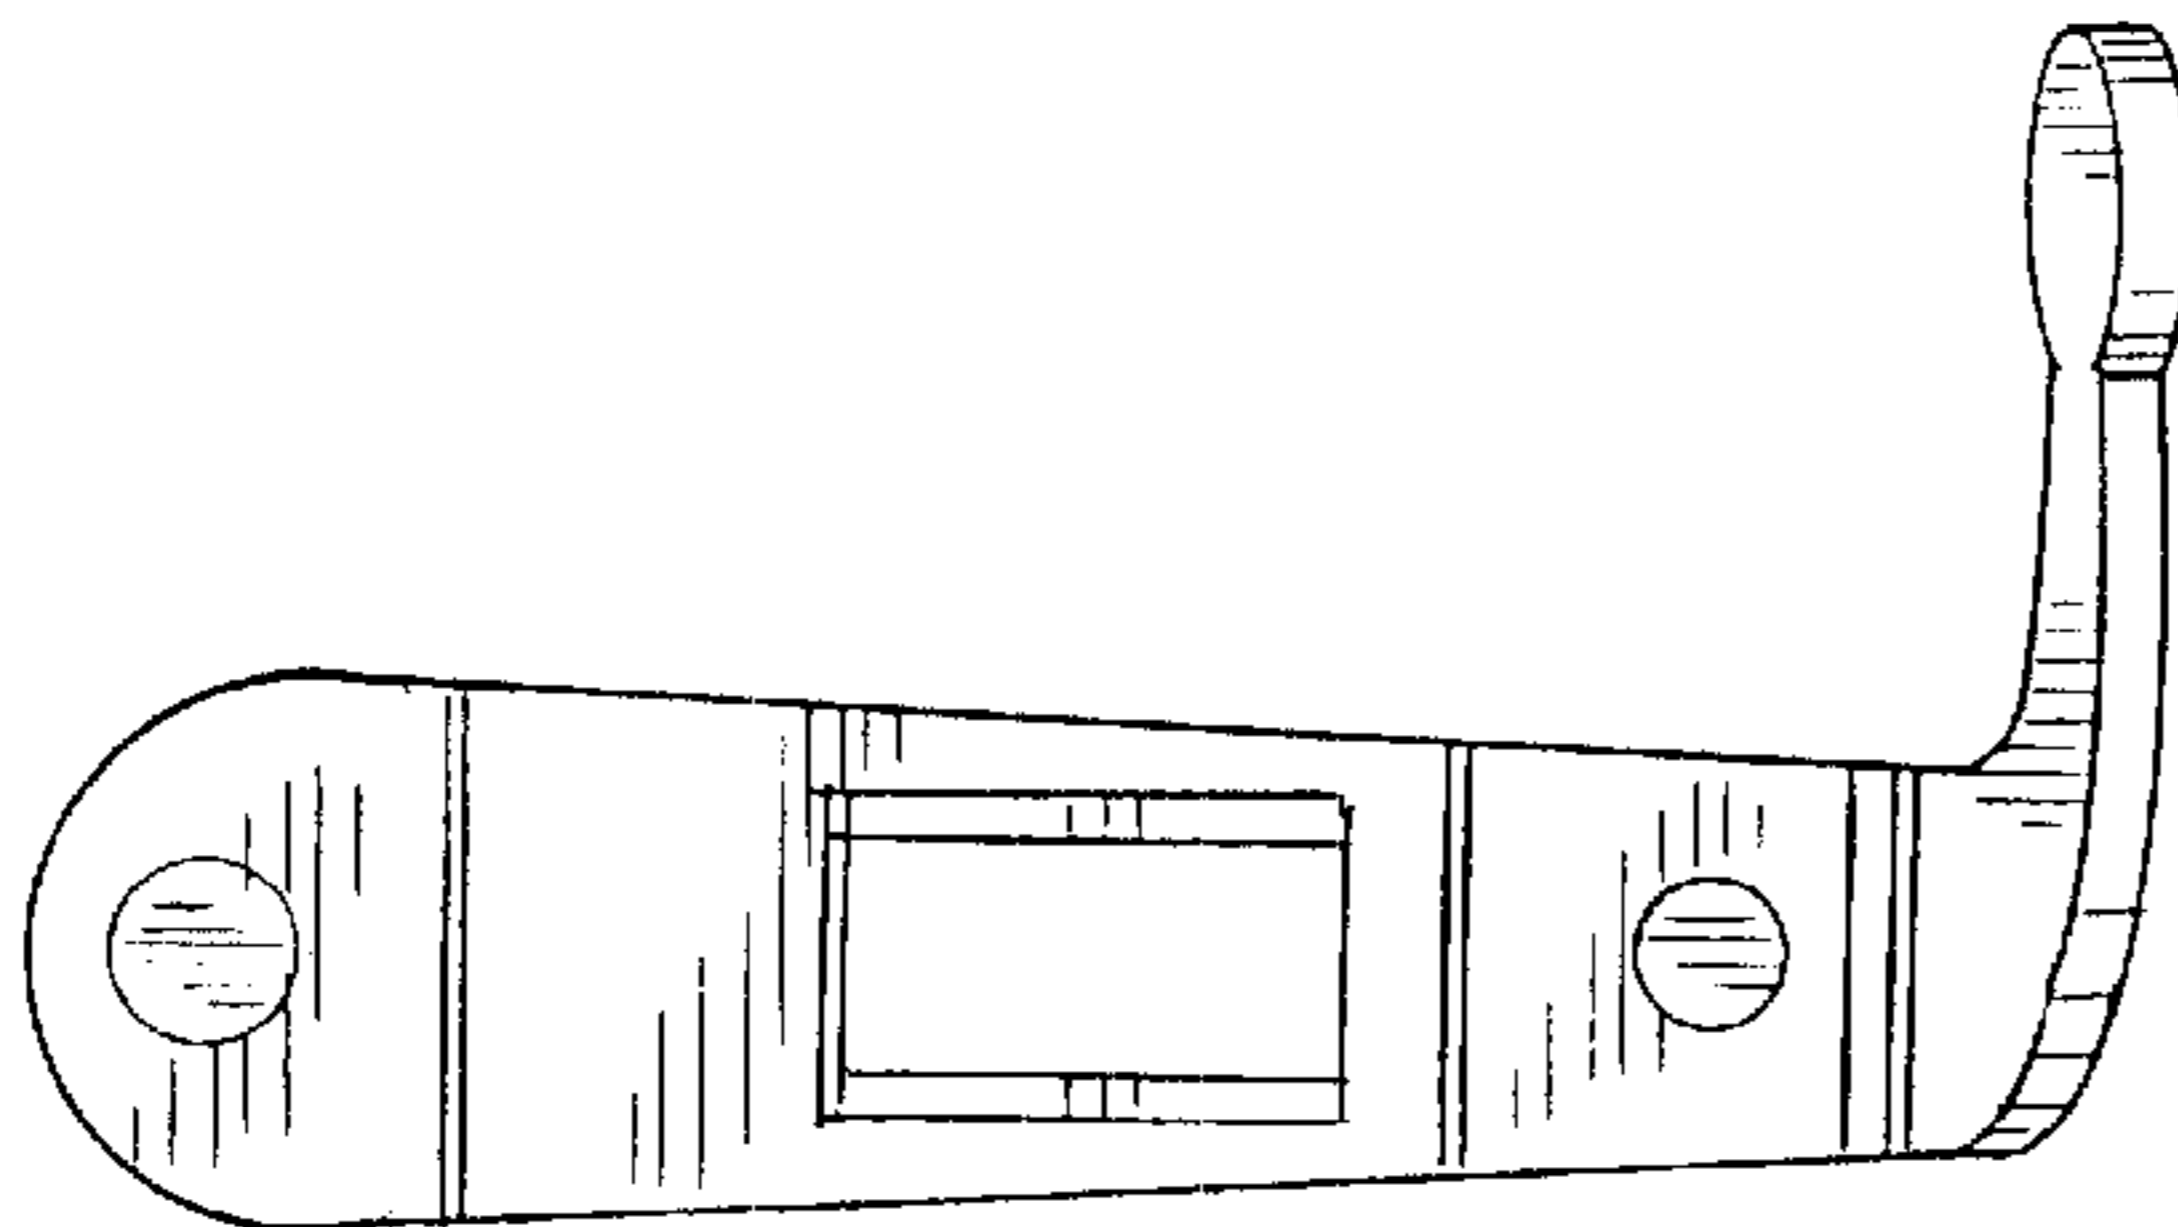

FIG. 6
- FIG. 6 is a rear view thereof of a thumb-activated adjustment lever.